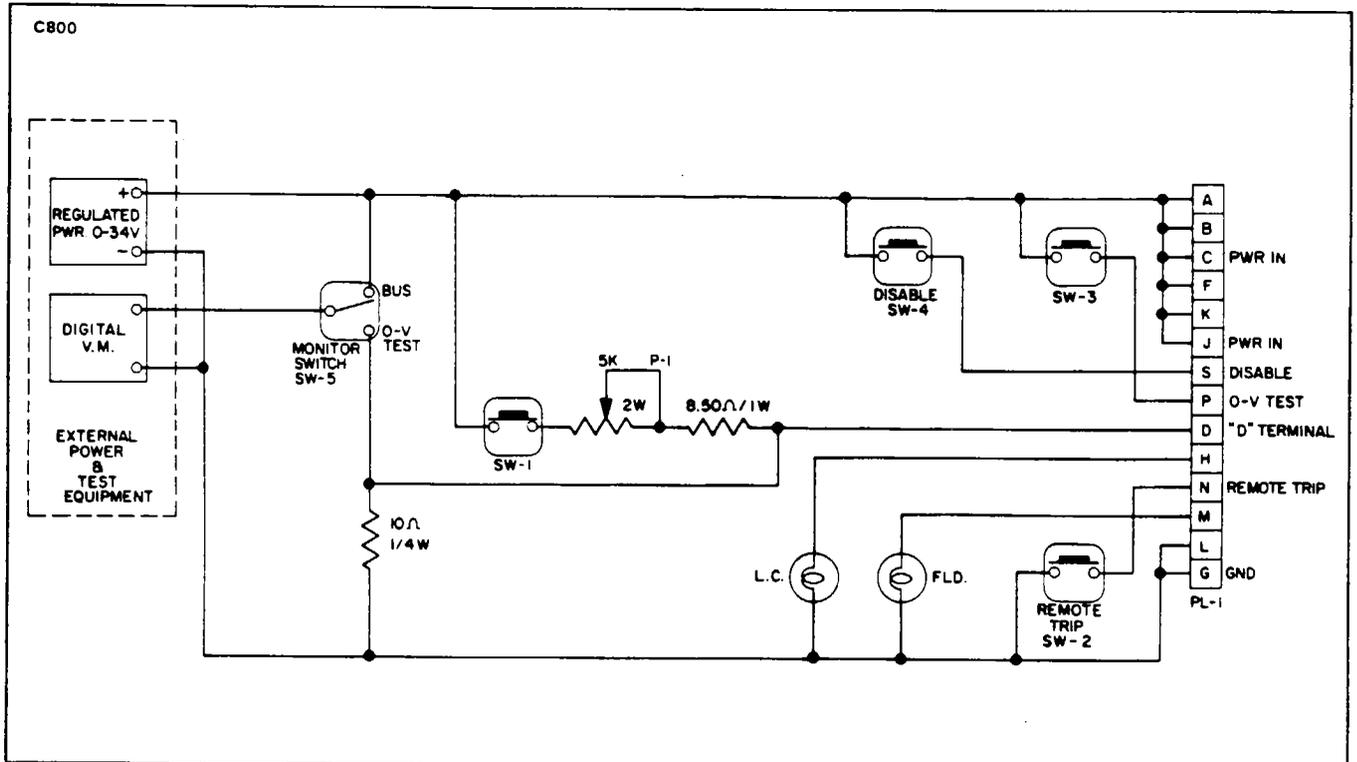

Figure 24-12. Electro Delta Wiring Diagram, Model VR-1528-3 D.C.
*It is necessary to fabricate test equipment per the following schematic provided by Electro Delta Inc. (Figure 24-12).*